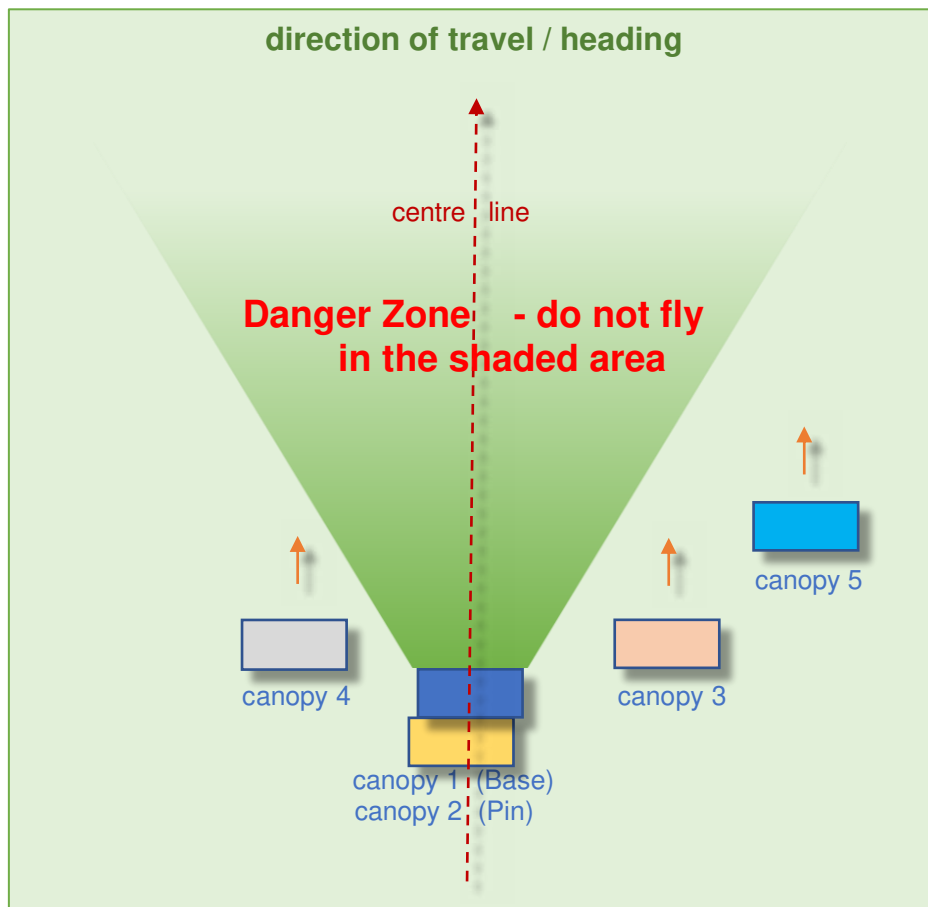

Fig. 4: Ariel view of canopies in a 5-way formation flying their slots while Pin and Base dock.
- Jumpers make their approach towards the Base whilst maintaining a position ahead of, above and slightly to the side of the formation, gradually working back in echelons alternating their approach according to the docking order i.e. number 2 goes left, number 3 goes right and so on, as in Fig. 4 above.
- Once a jumper has made their approach they may need to fly their slot while waiting for the rest of the formation to build. There may be other canopies waiting on the same side, which the jumper needs to be aware of while they work to keep with the formation while it builds (eg no.s 3, 4 and 5 in Fig. 4 above need to fly their slots while Pin and Base get together)